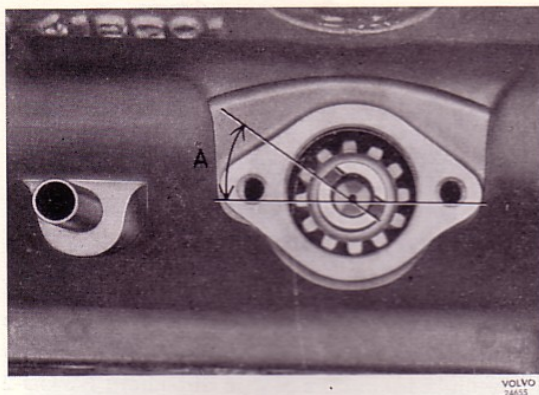

Fig. 58 Distributor drive position
When No. 1 cylinder is at top dead centre, fit the oil pump drive and distributor. The small part at the groove is turned obliquely upwards-backwards and the groove set at an angle of 35° to the longitudinal axis of the engine, see Fig. 58 (A). Make sure that the shaft goes down into its groove in the pump shaft.